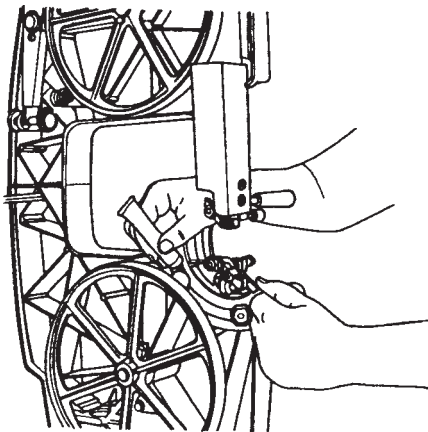

Fig. 12
10. Loosen the tilt lock (44) and lubricate the trunnions (37) with powdered graphite, rocking them back and forth as you apply the graphite, as seen in Fig. 12. (You will do this periodically, as discussed in the Maintenance Schedule, on page 34.)